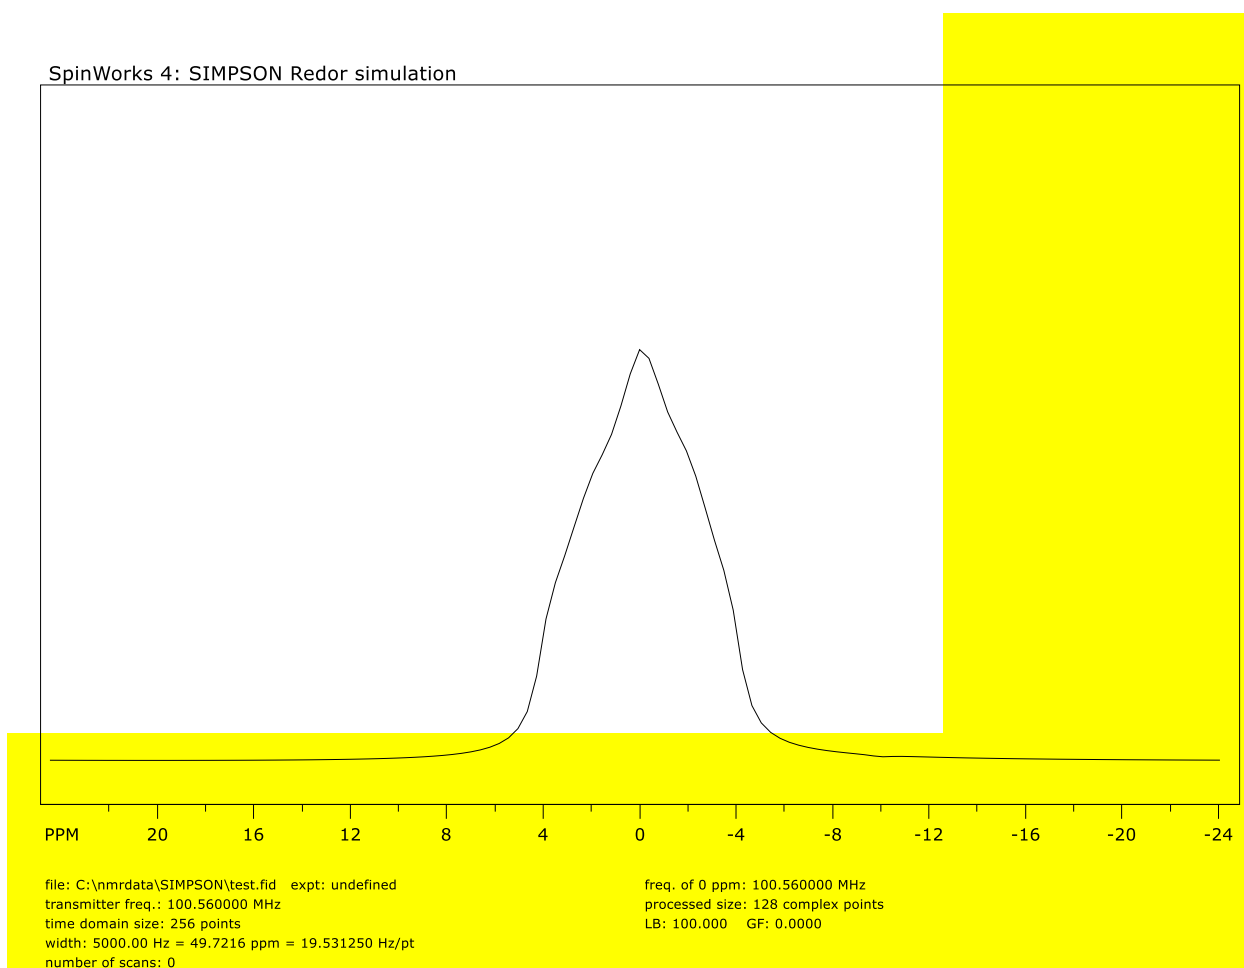

Figure 32. *SIMPSON REDOR simulation*
3. From the File menu select Read SIMPSON Spectrum..., and in the dialog select the redor.spe file. The spectrum should look like that in Figure 32 below.